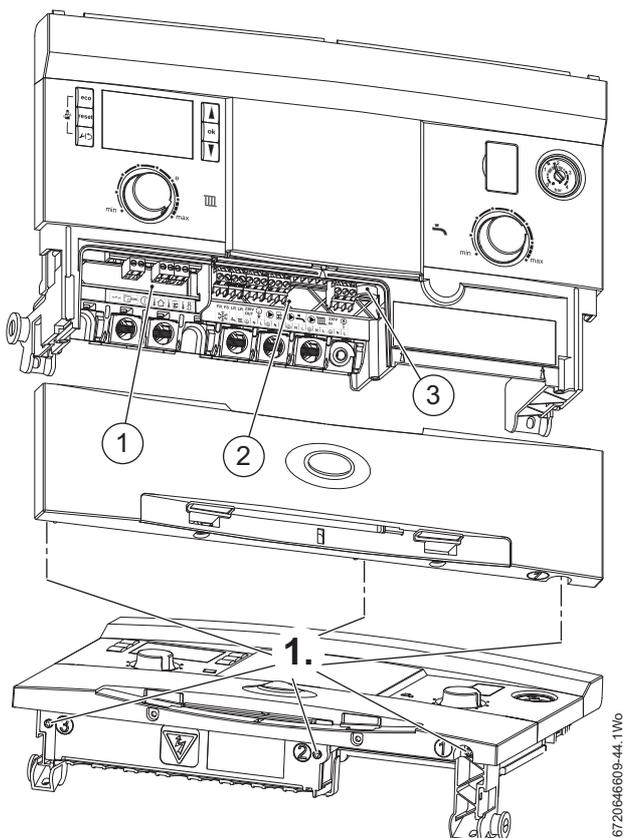

Fig. 46 Removing the installer access cover
1. Refer to figure 46 and release the captive screws securing the Installer access cover.